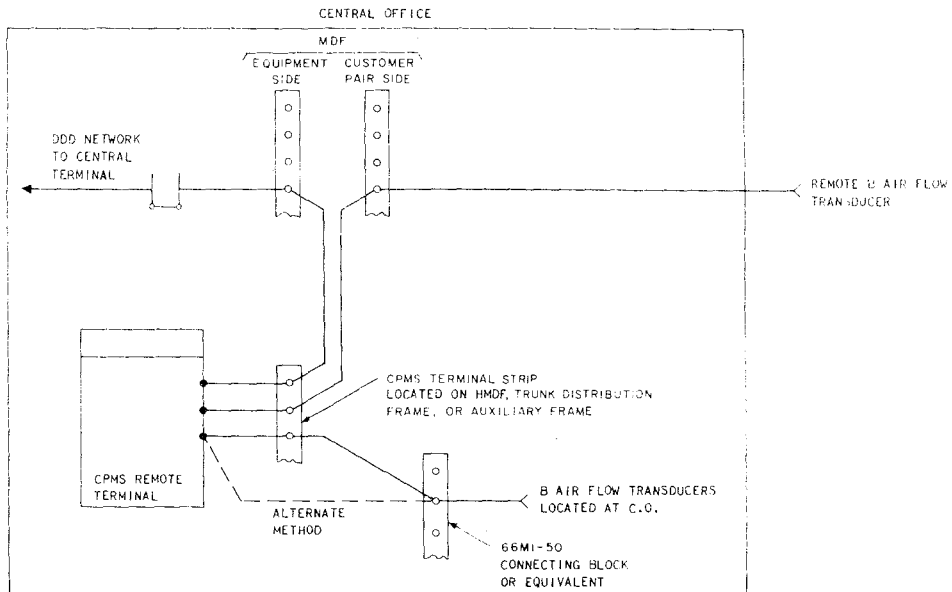
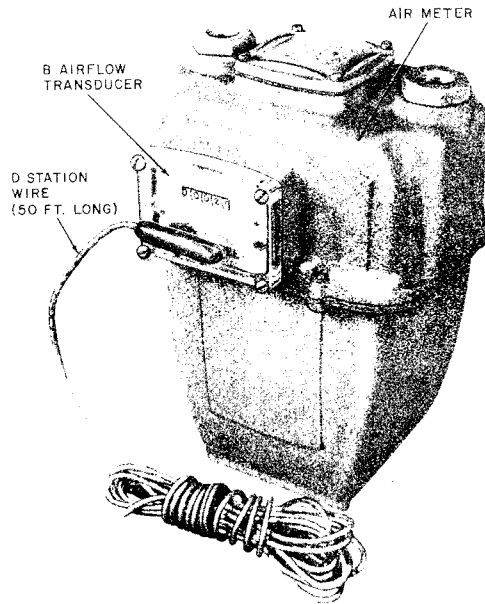

Fig. 3—Interconnections for Remote and Central Office B Airflow Transducers
Fig. 4—B Airflow Transducer Installed on Air Meter
3.02 For central office applications the transducer will be electrically connected to a 66M1-50 connecting block or equivalent, from the connecting block to the CPMS auxiliary terminal strip located on the horizontal main distribution frame (HMDF), trunk distributing frame, or auxiliary frame, and then to the CPMS remote terminal. These interconnections are shown in Fig. 3.
3.03 As an alternate method of interconnections for the central office transducer, the connections may be from the connecting block (66M1-50 or equivalent) directly to the CPMS remote terminal. This method is also shown in Fig. 3.
3.05 When the transducer is used with an air meter (Fig. 4) for monitoring pole-mounted air dryers, a dedicated pair to the central office terminating on the CPMS remote terminal is required. Splicing of the D station wire to the dedicated pair is as outlined on the engineer's work print. Interconnections of a remote transducer are shown in Fig. 3.